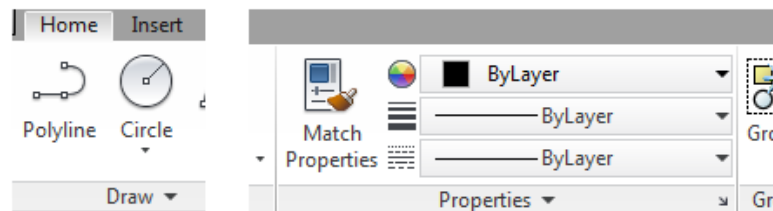

Figure Step 4
Step 4 Ensure that all features on the Status bar are disabled by clicking any that are enabled. Your Status bar should match the figure. (Figure Step 4)